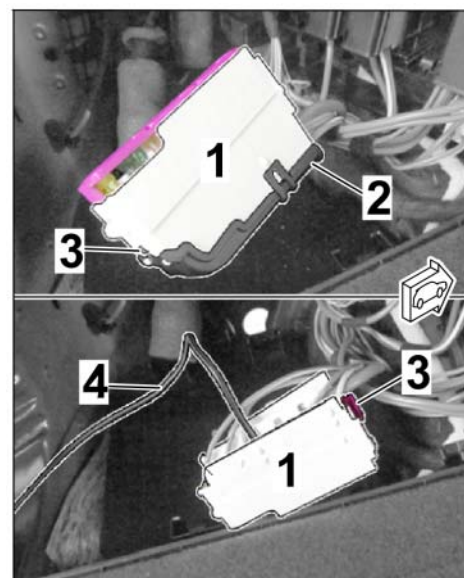

Figure 9
- 2.3.1 Remove fuse holder H (strip B – white) from the fuse box in the luggage compartment. ⇒ *Figure 9-top-, ⇒ Workshop Manual '978409 Loosening and securing fuse box in the luggage compartment'*
- 2.3.2 Release fuse holder H (strip B – white) and connect the lines (RD/GN and RD/YE) as follows (⇒ *Figure 9-Bottom-*):